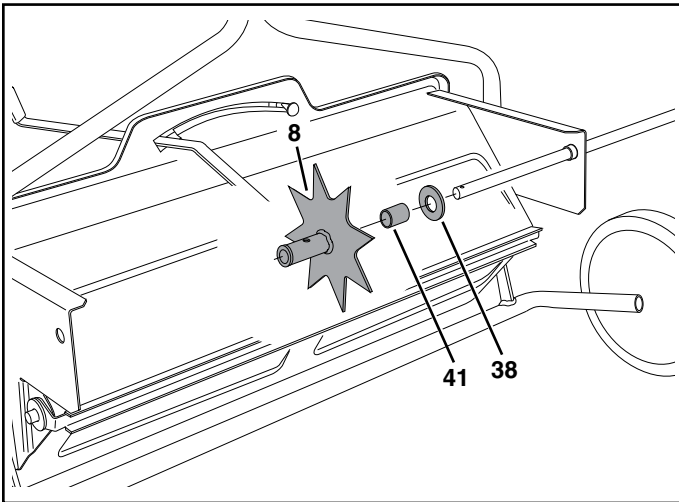

FIGURE 15
- Place a large washer (38), short spacer tube (41), and the drive disk (8) onto the shaft. Fit the short spacer tube and large washer onto the flanged bearing in the end plate. See figure 15.